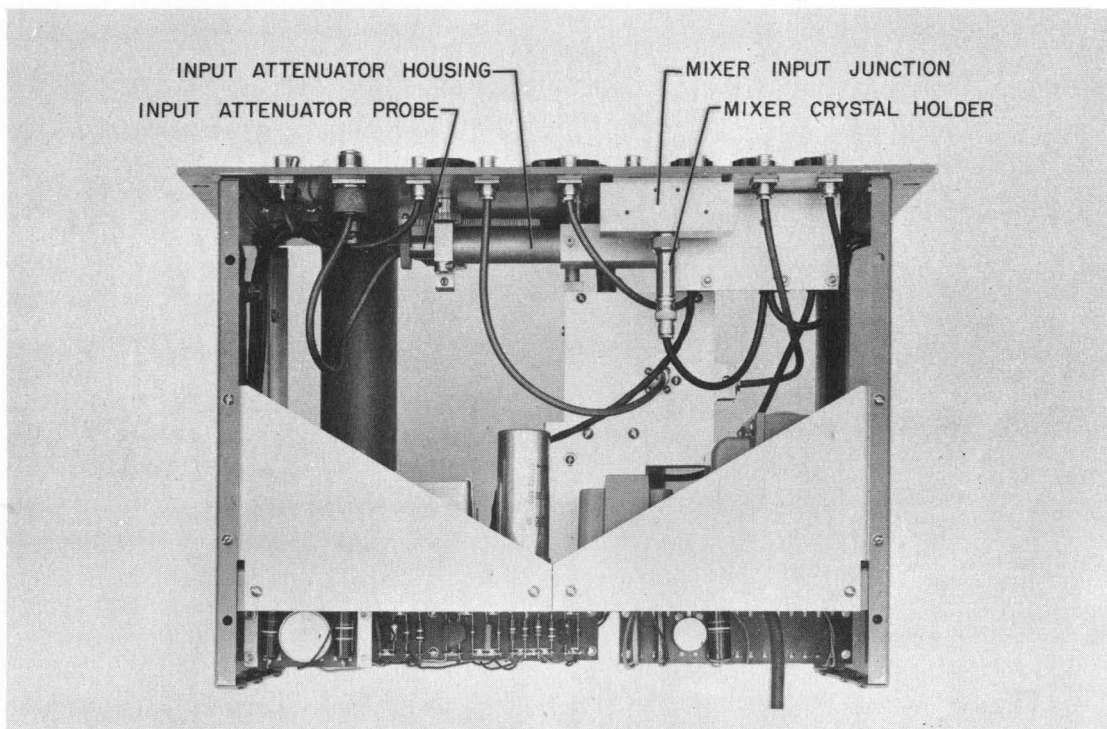

Fig. 17. Model 540A Transfer Oscillator, Bottom View, Cabinet Removed to show Locations of Major Components
- a. With instrument cabinet removed and the chassis resting on the back plate, disconnect the cable that enters the crystal holder at the front panel. (See Figure 17).